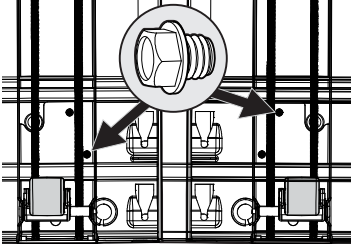

Fig. 4
- b. Using a 5H bolt and a power drill, fasten the bottom of the Leveler Assembly with a 5/8" hex drill bit in whichever hole overlaps the screw hole (Fig. 4).